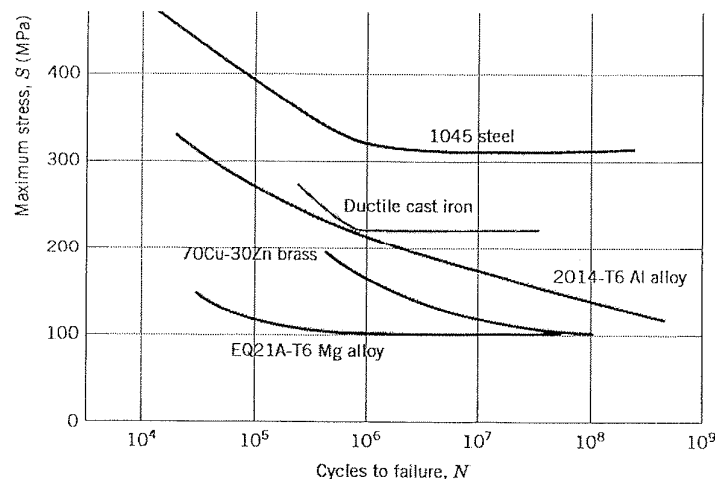

Figure Q1: Maximum stress (S) versus logarithm of the number of cycles to fatigue failure (N) for five metal alloys.
- b. Determine the diameter of a shaft made of 70Cu -30Zn to withstand 10^7 cycles if it is subjected to a fully reversed load amplitude of 10,000 N. You may assume a safety factor of 2.5 and use the data given in Figure Q1. [11 marks]